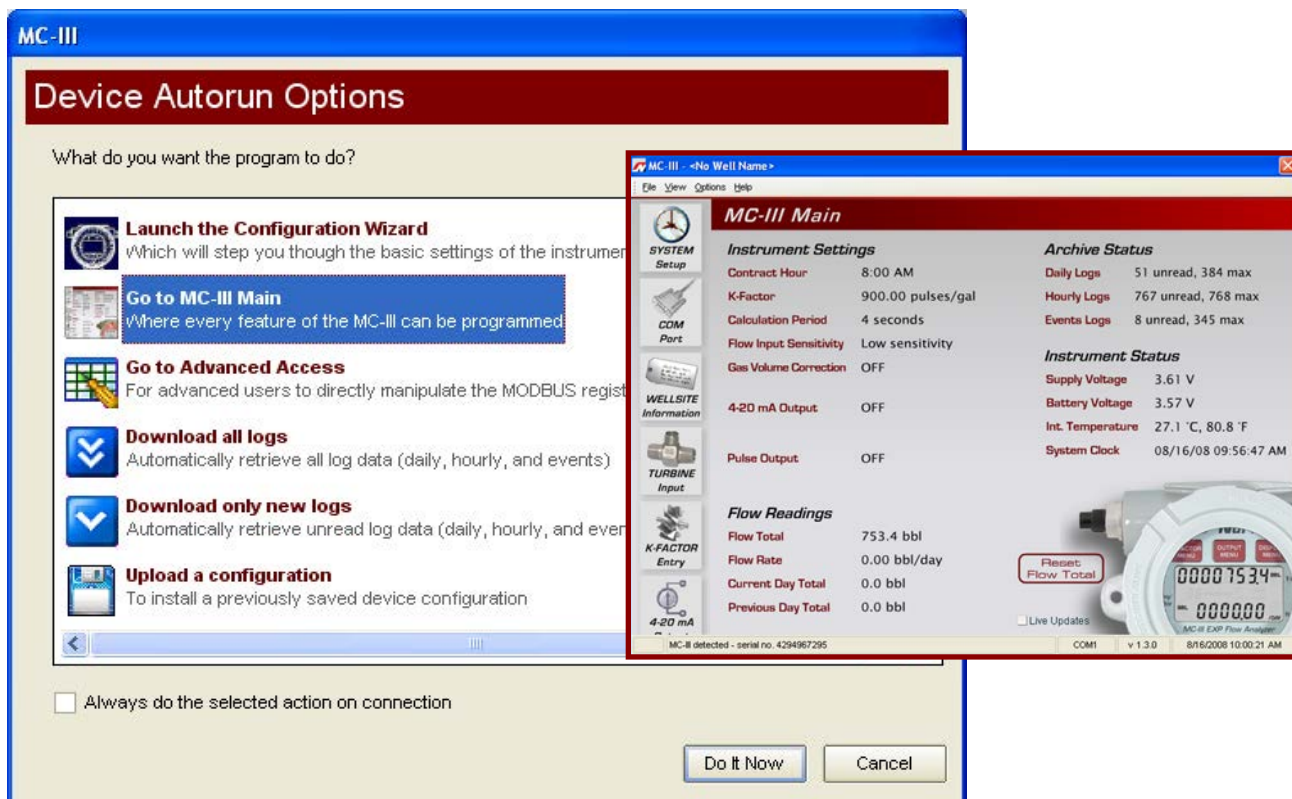

Figure 4.12—MC-III Main configuration option for complete access to configurable parameters
- The MC-III Main screen (*Figure 4.12, page 49*) gives users complete access to all configuration parameters.